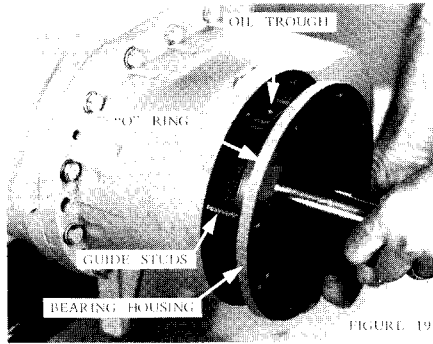

FIGURE 19
19. Install two (2) 3/8-16 UNC guide studs in gear cover for ease of assembly. Install "O" ring on gear housing up against flange (not visible in Figure 19). OIL BEARINGS AND GEAR WITH OIL TO BE USED IN UNIT. With oil trough up, slide bearing housing and shaft assembly in the gear housing. Use care; inner bearing roller assembly must enter outer race and gears must mesh.